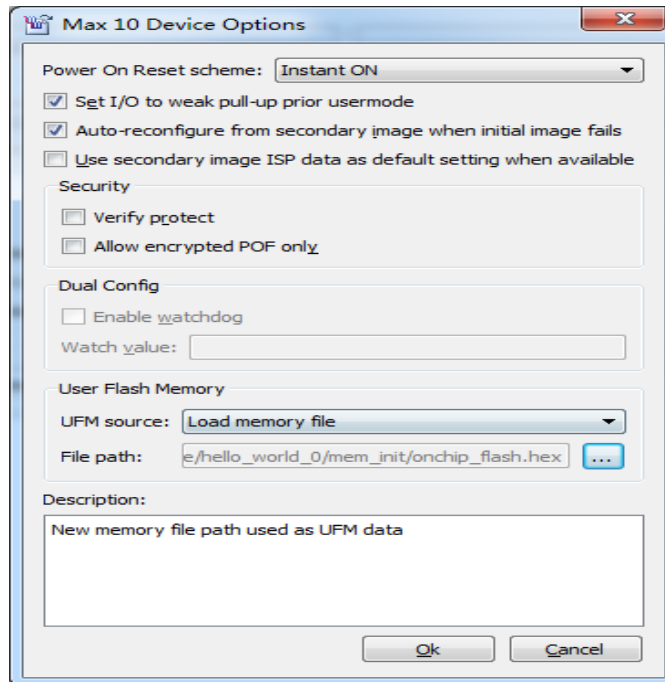

Figure 7-13 Add Hex Data Window
- Click the Options/Boot info... button. Choose the UFM source as the load memory file and click browse button to open the onchip flash hex file as shown in **Figure 7-13**. Press OK button to close the window.